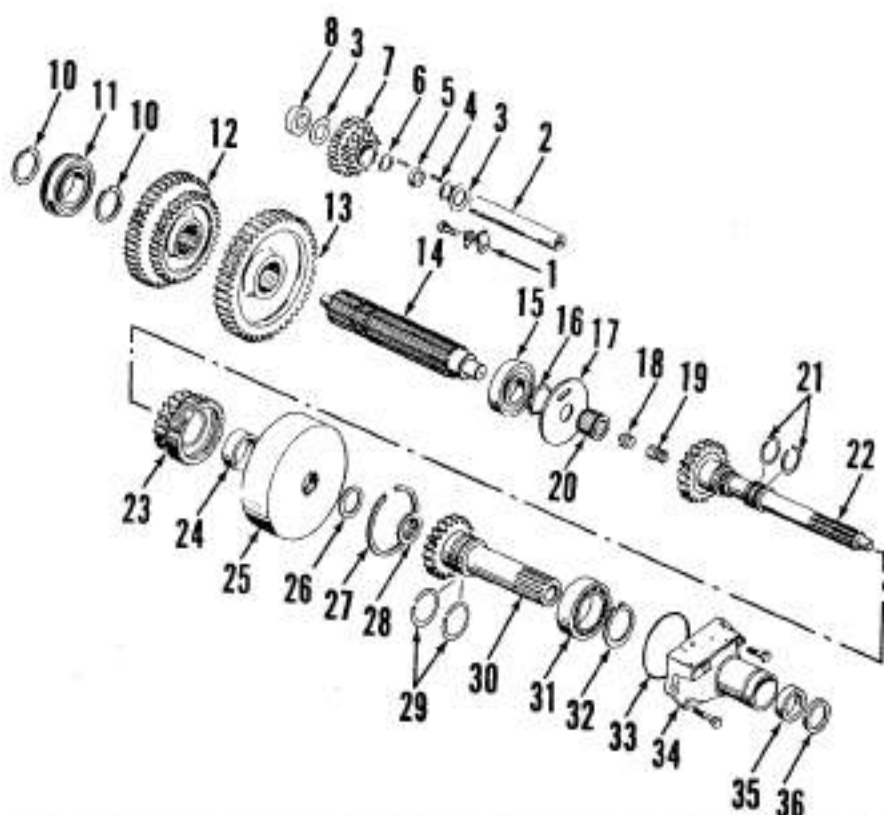
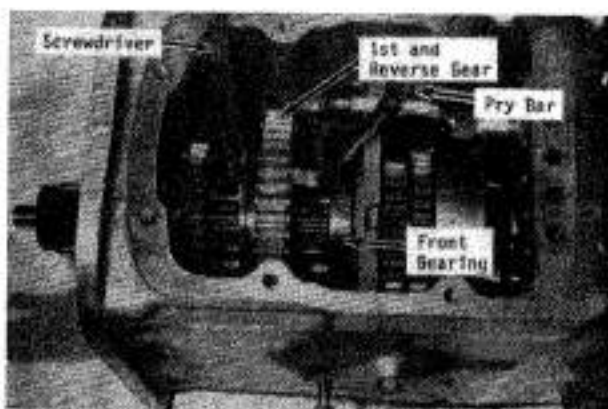

Fig. 148—Exploded view of transmission upper shafts and associated parts, reverse idler gear assembly and Multi-Power clutch unit.
Fig. 149—Pry mainshaft rearward to free front bearing from housing bore.
152. To remove mainshaft (14—Fig. 148) and sliding gears, first remove planetary unit as outlined in paragraph 151 and shifter rails and forks as outlined in paragraph 150. Move low speed sliding gear (13) forward until groove in mainshaft splines is exposed. Insert a large blade screwdriver into the groove to hold gear in position, then insert a pry bar between front of gear and transmission housing wall as shown in Fig. 149. Pry shaft rearward until front bearing
is free from housing bore. Remove snap ring (16—Fig. 148), then pull mainshaft rearward to bump bearing from front of shaft. Remove gears (13 and 12) as shaft is withdrawn rearward. Note that rear bearing (11) is removed and installed over front end of mainshaft.
153. To remove pto input shaft (30—Fig. 148) and retainer (34), first separate transmission from engine as outlined in paragraph 112. Remove clutch throwout bearing, release fork and shafts from front of transmission housing. Disconnect Multi-Power control linkage and hydraulic line. Remove retainer housing cap screws, then withdraw retainer with input shaft as a unit from transmission case.
154. R&R AND OVERHAUL. To remove transmission input shaft (22—Fig. 148) and Multi-Power clutch (25), first remove transmission from tractor as outlined in paragraph 145. Remove pto input shaft and retainer housing as outlined in paragraph 153 and remove mainshaft as outlined in paragraph 152.
157. The reverse idler shaft (2—Fig. 148) and gear assembly (7) can be removed from transmission housing after removing the mainshaft and gears as outlined in paragraph 152.